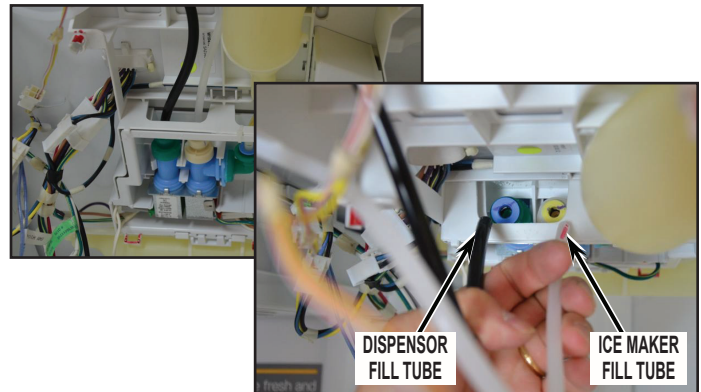

FIGURE 11
13. Disconnect electrical connections to water reservoir and valve assembly. Disconnect dispenser and ice maker fill tubes. See *Figure 11*.